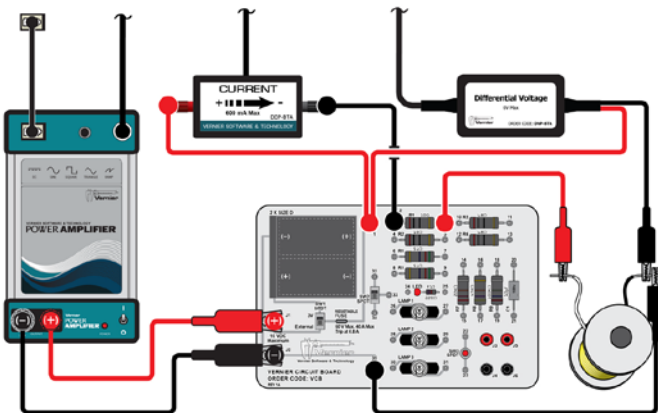

Figure 4
1. Set up the circuit with a $10\ \Omega$ resistor in series with a current probe and a $5.0\ \text{mH}$ inductor, as shown in Figures 4 and 5.